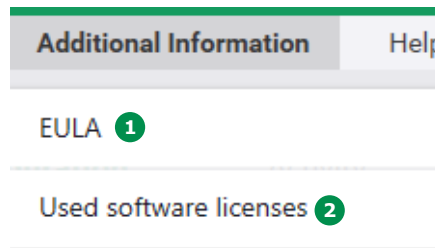

Figure 48 - Prove Connect’s Additional Information menu
If you click on the EULA sub menu ① (Figure 48), a PDF document is opened in your default Windows application, e.g. the Adobe Acrobat reader (Figure 49).
If you click on the “Used software licenses” sub menu ② (Figure 48), a text file is opened in your standard Windows application, e.g. Notepad (Figure 50). The file lists the used third-party licenses and their copyright information.